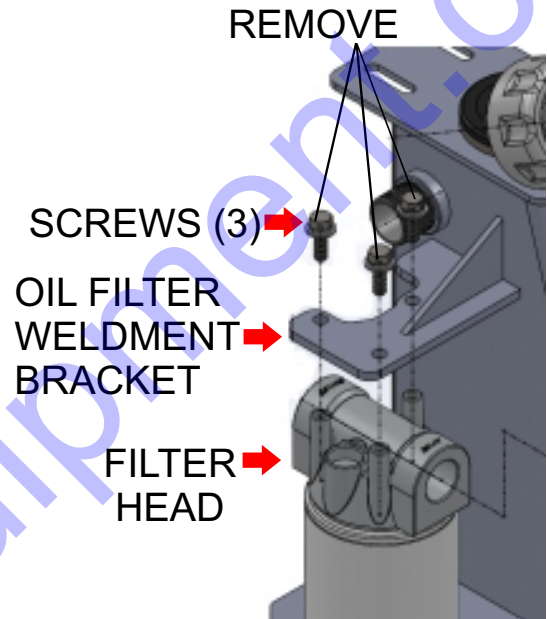

Figure 4. Filter Head Removal
9. Next, using a 1/2" wrench remove the three screws (Figure 4) that secures the filter head to the oil filter weldment bracket.